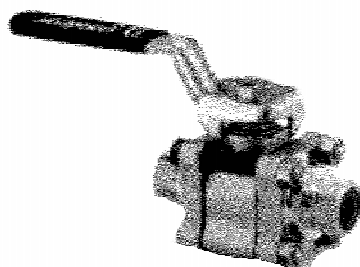

Figure 6-3. 1/2-Inch Isolation Ball Valve (B-63TF8)
2. 1/2-Inch Isolation Ball Valve (B-63TF8) (see Figure 6-3). The following 1/2-inch valves are manufactured by Whitey Co. and distributed by Swagelok. These valves are generally hull isolation valves or component isolation valves. These are Swagelok Series 60 valves and are repaired or replaced in accordance with the procedures listed in sections 6-6.2.1 through 6-6.2.3.